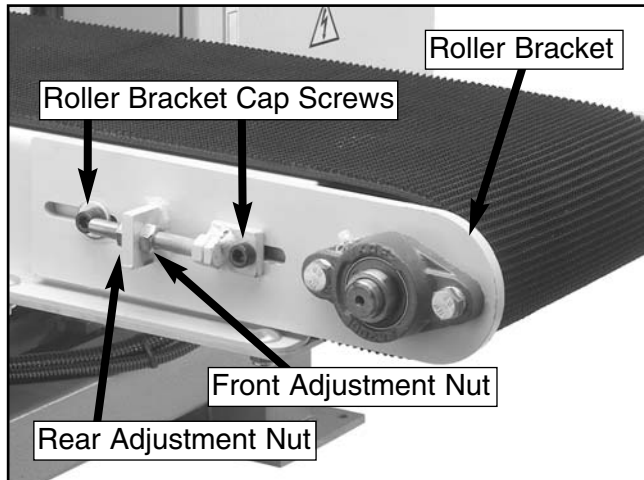

Figure 43. Roller bracket cap screws and adjustment nuts.
4. Loosen the roller bracket (see **Figure 43**) by turning the roller bracket cap screws $\frac{3}{4}$ of a turn.